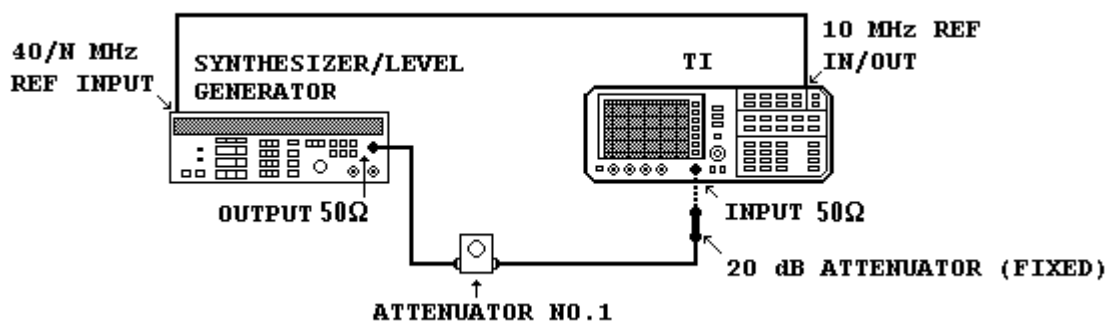

Figure 2. Input attenuator accuracy (50 MHz) - equipment setup.
- (1) Connect equipment as shown in figure 2.